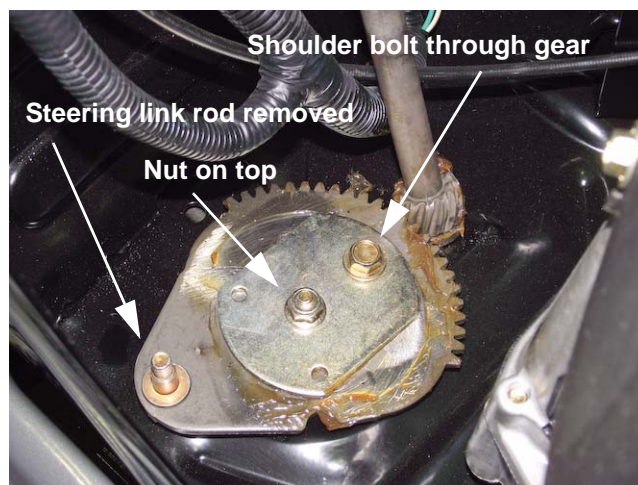

Figure 3.16
4. Remove the flange lock nut that fastens the steering link rod to the steering gear. Lift the rod up and out of the way. See Figure 3.16.